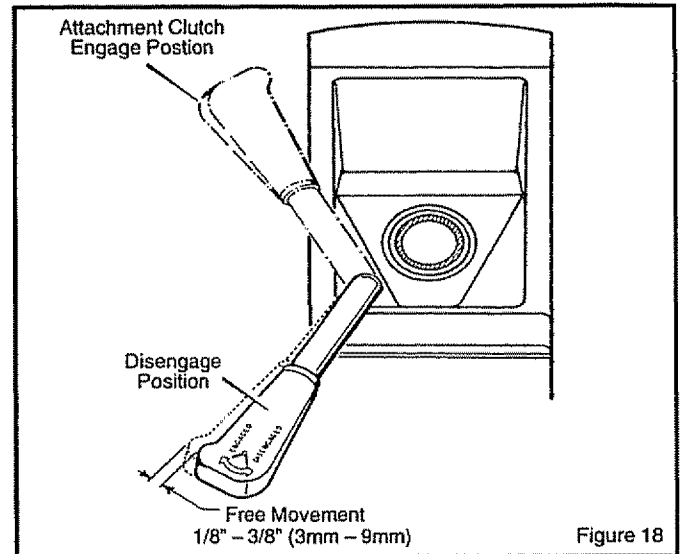

Figure 18
4. Move the **attachment clutch** to the **DISENGAGE** position (Figure 18).